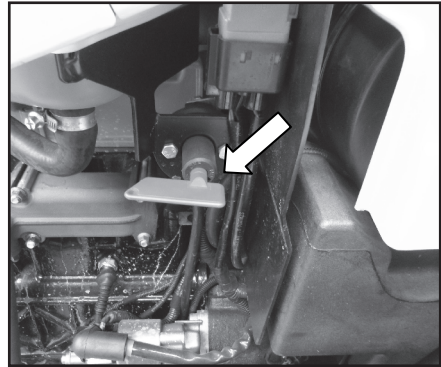

Fig. 5.13
- Switch in the "ON" position: electrical system powered (Fig. 5.13);